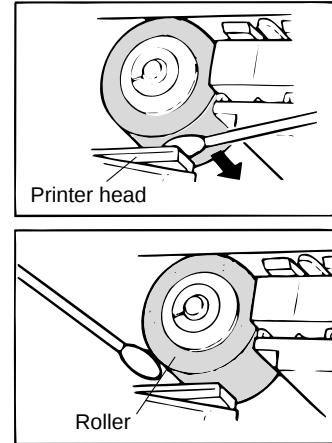

Figure-1
4. Use a cotton swab dipped in alcohol to clean the printer head and roller as shown in the illustration (Figure-1).